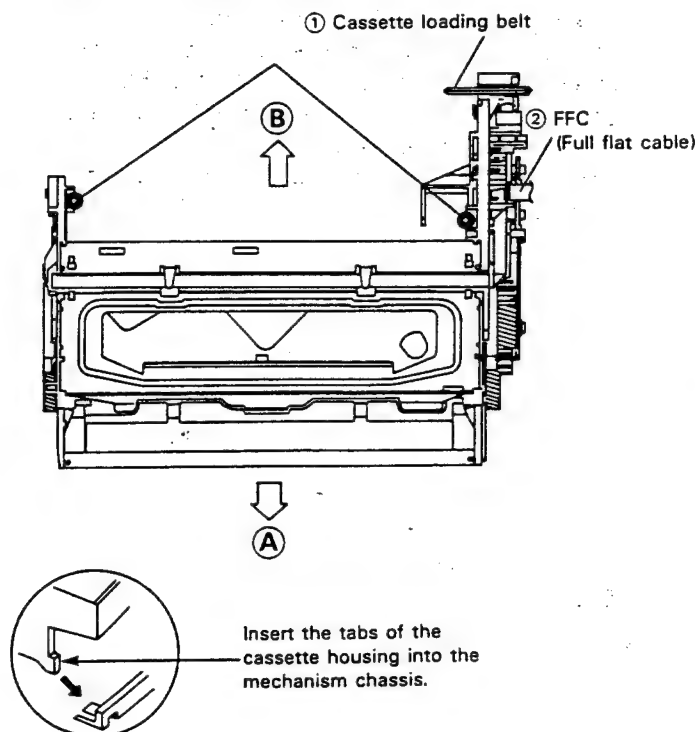

Figure 1-1.
5. Move the cassette housing control assembly (Fig. 1-1) in the direction of arrow ⇒ ③, and pull it out straight upward.